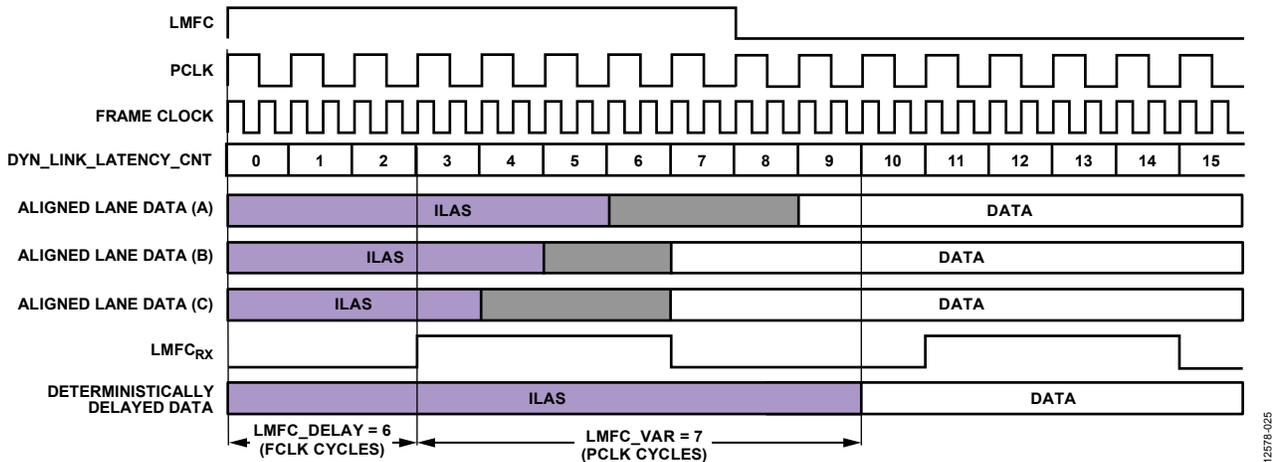

Figure 58. Multilink Synchronization Settings, Derived Method Example
Figure 58 shows how DYN_LINK_LATENCY_x (Register 0x302 and Register 0x303) provides a readback showing the delay (in PClock cycles) between LMFC_{RX} and the transition from ILAS to the first data sample. By repeatedly power cycling and taking this measurement, the minimum and maximum delays across power cycles can be determined and used to calculate LMFCVar and LMFCDel.
The example shown in Figure 58 is demonstrated in the following steps according to the procedure outlined in the Without Known Delays section. Note that this example is in Subclass 1 to achieve deterministic latency, which has a PClockFactor (frame clock rate/PClockRate) of 2 and uses K = 16; therefore, PClocksPerMF = 8.
1. In Figure 58, for Link A, Link B, and Link C, the system containing the AD9135/AD9136 (including the transmitter) is power cycled and configured 20 times. The AD9135/AD9136 are configured as described in the Device Setup Guide. Because the point of this exercise is to determine LMFCDel and LMFCVar, the LMFCDel is programmed to 0 and DYN_LINK_LATENCY_x is read from Register 0x302 and Register 0x303 for Link 0 and
Link 1, respectively. The variation in the link latency over the 20 runs is shown in Figure 58 in gray.